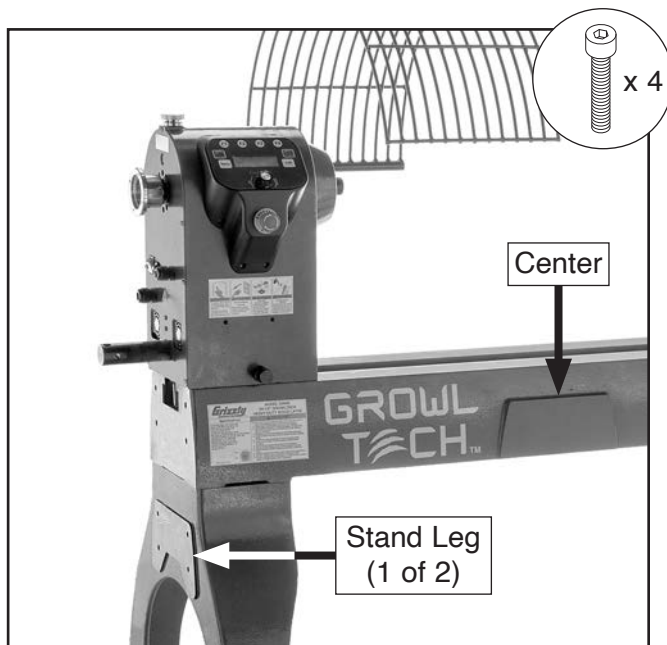

Figure 87. Bed extension mounting locations for outboard turning.
3. Hand thread (4) M10-1.5 x 30 cap screws halfway in mounting holes at desired mounting location (see **Figure 87**).